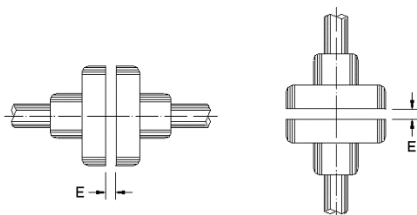

Figure 4.7: Axial clearance of the coupling (E)
Align the shaft ends carefully, and, whenever possible, use flexible coupling, leaving a minimum clearance (E) of 3 mm between the couplings, as shown in Figure 4.7.